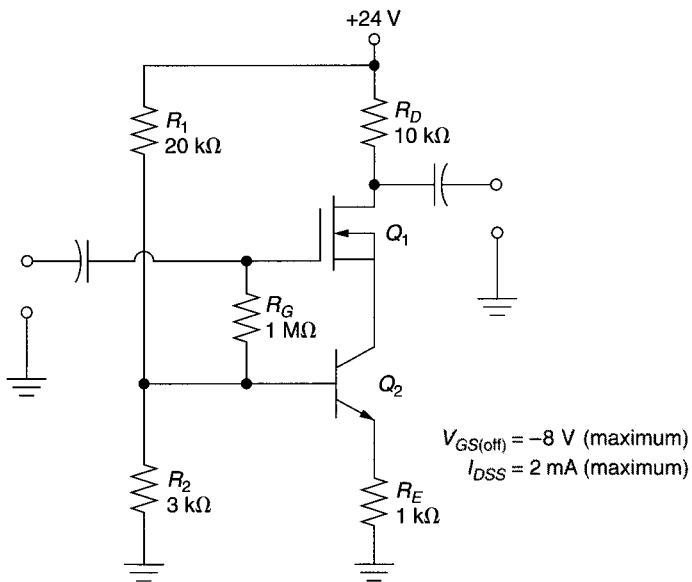

FIGURE 13.40
22. The constant-current bias circuit shown in Figure 13.40 won't work. Why?